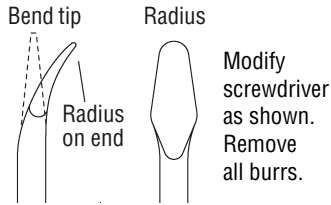
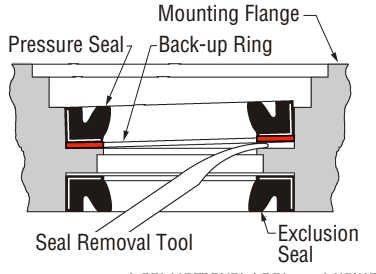

Figure 5-27, Seal Removal Tool
Figure 5-28, Seal Removal
11. Use a seal removal tool (Figure 5-27 and Figure 5-28) to remove the exclusion and pressure seals.